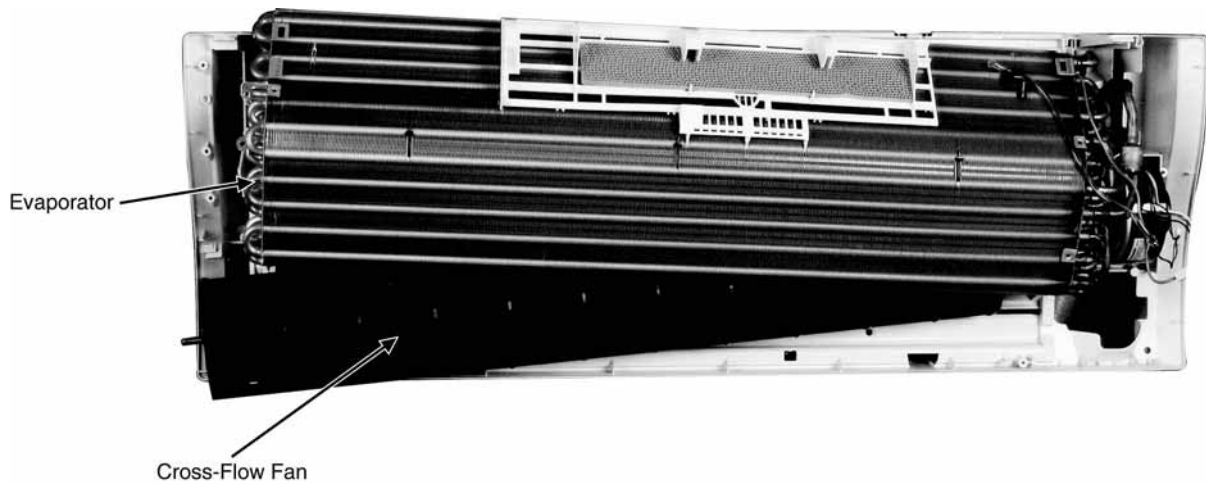

Fig. 14
10. Lift up the Evaporator and remove the Cross-Flow Fan from the unit by pulling it to the left and downward. (Fig. 14)